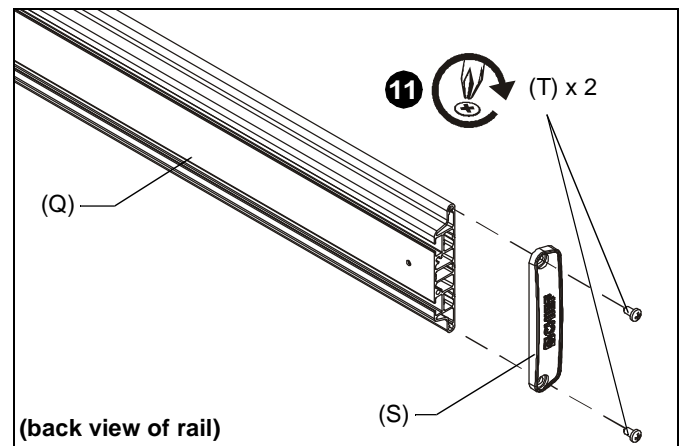

Figure 17
11. Attach one remaining end cap (S) with two 1/4-20 x 1/2" Phillips head screws (T) to end of mounting rail (Q). (See Figure 17)